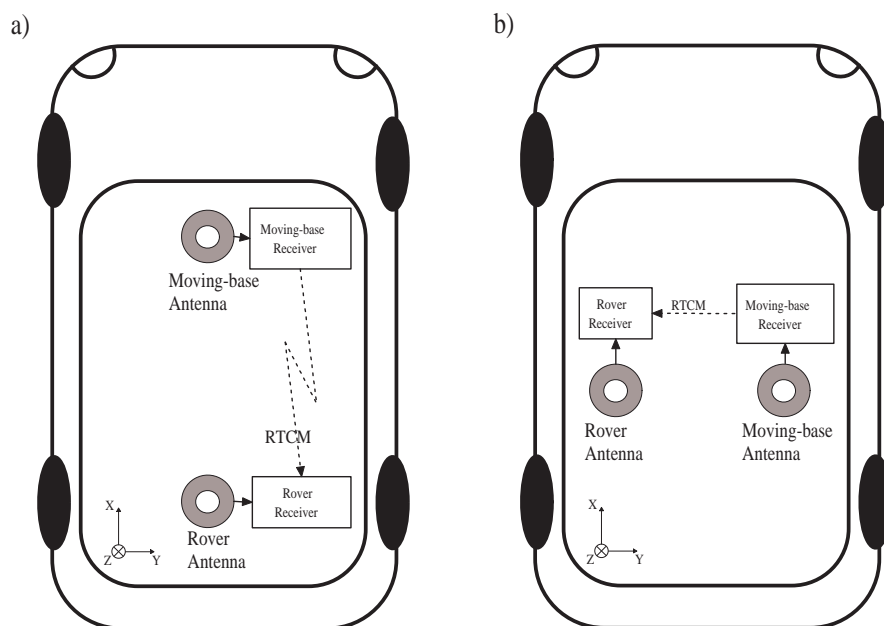

Figure 1-3: Moving-base attitude determination setup. a) default configuration. b) example of non-default configuration.
The heading and pitch of a vehicle can be derived from the orientation of the baseline between a base and a rover antenna when both antennas are attached to the vehicle. The base antenna is connected to a first receiver configured as RTK moving base station. The rover antenna is connected to a second receiver configured as RTK rover and accepting the RTCM stream from the first receiver. This is illustrated in Figure 1-3.
1. Attach two antennas to your vehicle. The default antenna configuration is as depicted in Figure 1-3 a). It consists in placing the antennas aligned with the longitudinal axis of the vehicle. If such configuration is not possible, you will have to provide additional information to the receiver, as explained below. For best accuracy, try to maximize the distance between the antennas, and avoid significant height difference between them.
in front of the rover antenna (see Figure 1-3 a)). If you cannot place the antennas in such configuration, the reported attitude angles will be biased. There are two ways to remove these biases:
- (a) The biases can be removed by telling the receiver where the moving-base antenna is located in the vehicle reference frame (see appendix A). This is done by specifying the coordinates of the baseline between the rover antenna reference point (ARP) and the moving-base ARP in the X, Y and Z directions. For example, in the configuration b) of Figure 1-3, assuming that the distance between the antenna ARPs is 1 meter, you would issue (on the rover receiver):